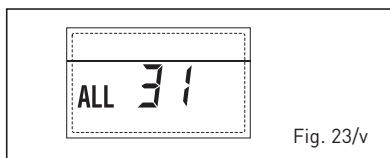

Fig. 23/v
– **THREE-ZONE SYSTEM CONFIGURATION ERROR “ALL 32” (fig. 23/w)**